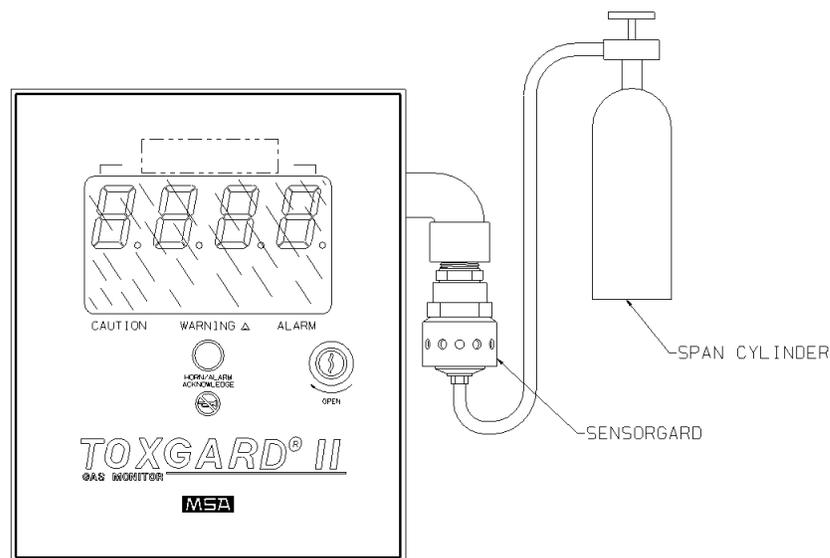

Fig. 33 Span Set-up
- (7) Connect the other end of the tubing over the SensorGard inlet (Fig. 33 "Span Set-up").